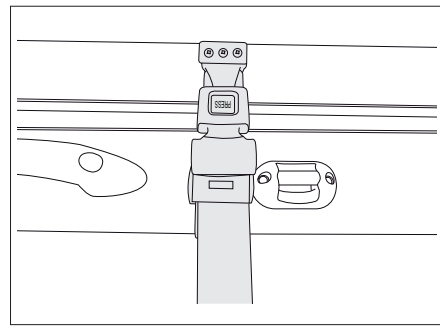

Fig. 144 Manual pull-down bed retaining belt
- Secure the pull-down bed to the roof by means of the retaining belt (Fig. 144).